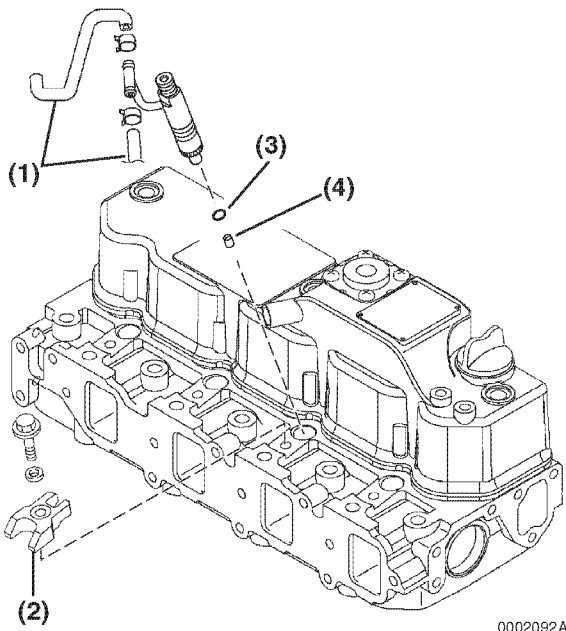

Figure 7-56
1. Reinsert a new nozzle seat (**Figure 7-56, (4)**) and nozzle protector (**Figure 7-56, (3)**) in the cylinder head for each injector.
4. Reinstall the fuel injector retainers (**Figure 7-56, (2)**) and torque the retaining bolts to specification.
5. Reinstall the fuel return hoses (**Figure 7-56, (1)**), one on each side of each injector.